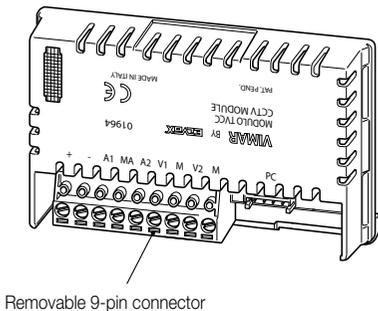

Figure 5
- **removable 9-pin connector:** connector on pillar side for the connection of the audio/video inputs (fig. 5).